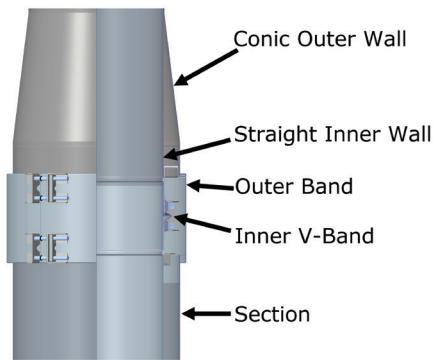

Figure 67- Exit Cone (EC) installed
The Finishing Cone (FC) is single wall construction (for Model DCL) or a Double wall construction (for Models DAS1, DIS1, DIS2 and DIS4), where the inner wall is straight, but the outer wall is a cone. It attaches with a standard Inner V-Band (BSI) and Outer Band (BSE) (See JOINT ASSEMBLY Section) to the uppermost chimney pipe section. To prevent rain from reaching an appliance this installation requires use of a Drain Length (DL) in a vertical run or a Drain Tee Cap (DTC) at the end of a vertical chimney. See Figure 67.